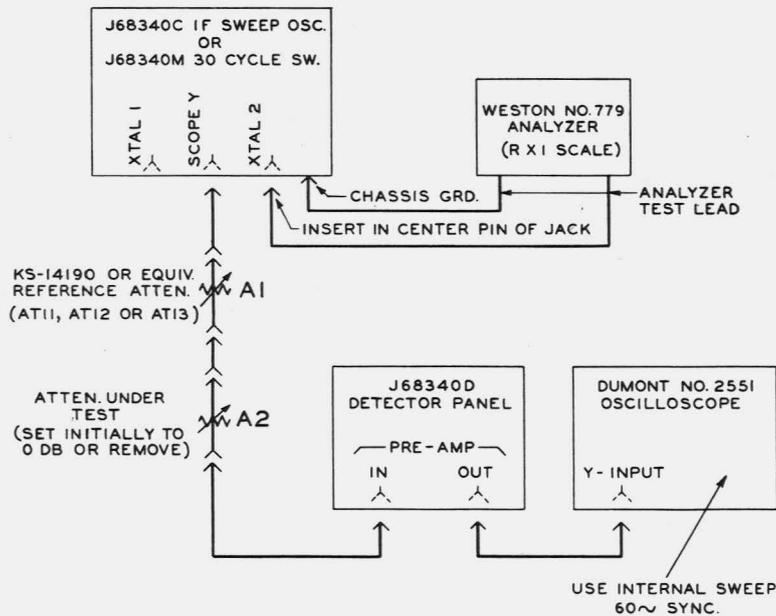

Fig. 15 - Circuit to Check Calibration of
(1) The following procedure is not an accurate measure of attenuation; it is a means of comparing one attenuator with another presumed to be good. If there are discrepancies, one or both of the units should be checked further, or returned to the Western Electric Co.
(2) Set up the circuit of Fig. 15. The reference attenuator, A1, may be as shown, or any other 75 ohm type capable of 1 db steps, since this is a DC test. It should be set initially to about 31 db; and the attenuator under test, A2, should be zero or removed from the circuit. Adjust the oscilloscope gain so that the height of the square wave pattern is exactly 2 inches.